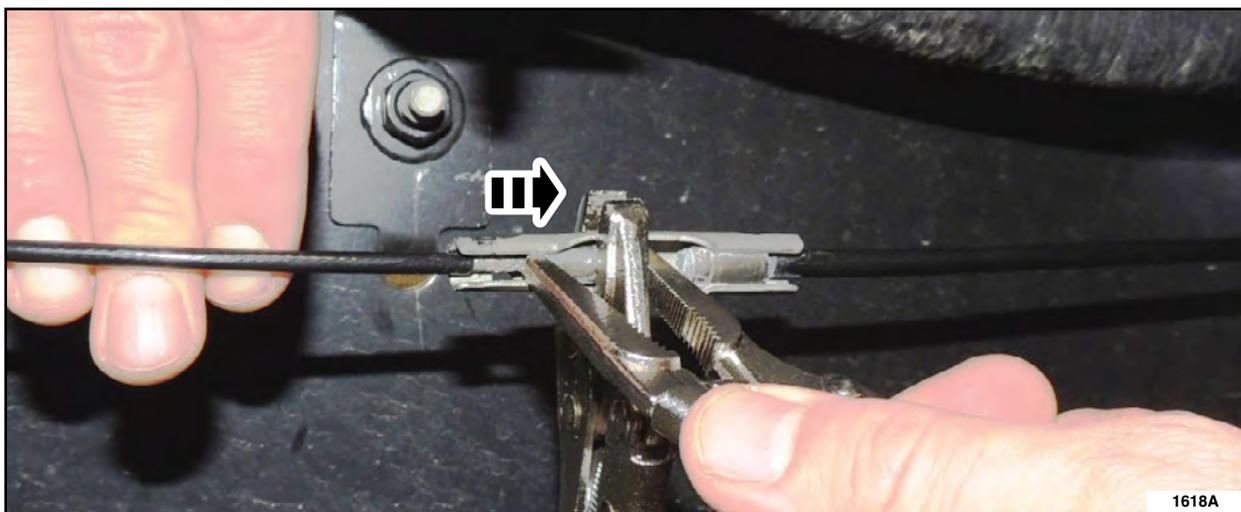

FIGURE 4
- b. Detach the rear parking brake cable from the parking brake cable union. For best results, place a pair of locking pliers in the center of the parking brake cable union with the opening of the union facing the drive shaft. Use a second pair of pliers to force the cable end inward to release it from the union, using the locking pliers as a leverage point. See Figure 4.